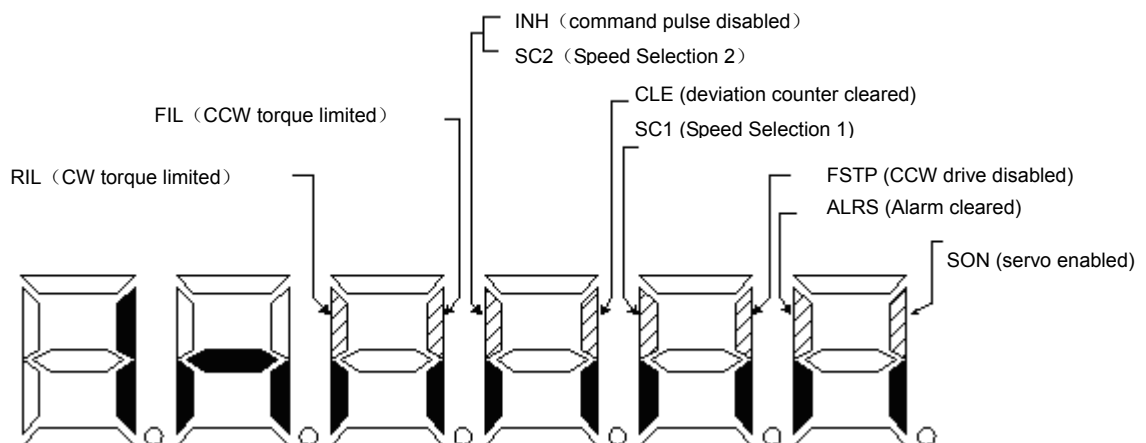
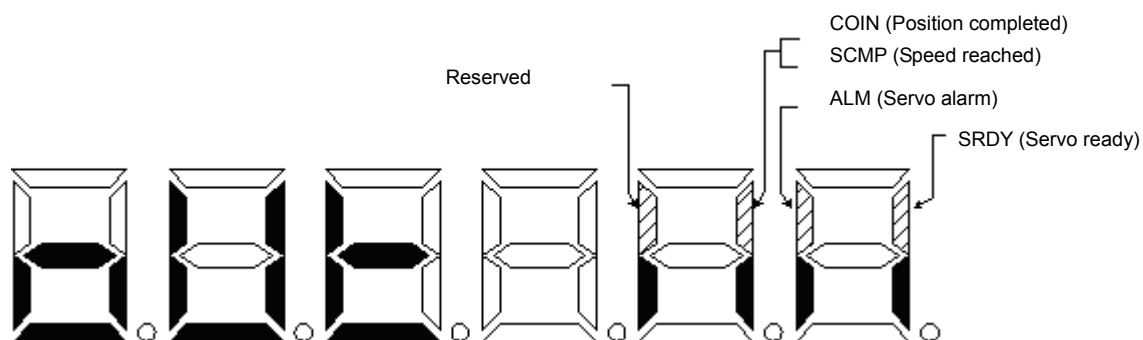

Figure 6-3 Indications of input terminals (The strokes are lit: ON. The strokes go out: OFF.)
Figure 6-4 Indications of output terminals (The strokes are lit: ON. The strokes go out: OFF.)
**Note 8:** The input terminals are indicated as shown in Figure 6-3 (No input signal display terminal is provided by V3.02), output terminal in Figure 6-4 and encoder signal in Figure 6- (No encoder signal display terminal is provided by V3.01).